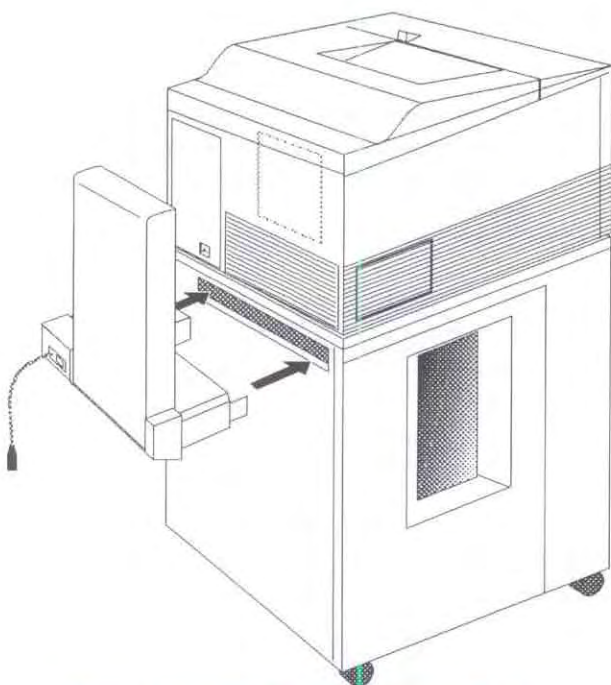

Figure 1-15. Installing the Transport Module
3. Install the Transport Module into the rear cut-out of the stacker cabinet, as shown in Figure 1-15.